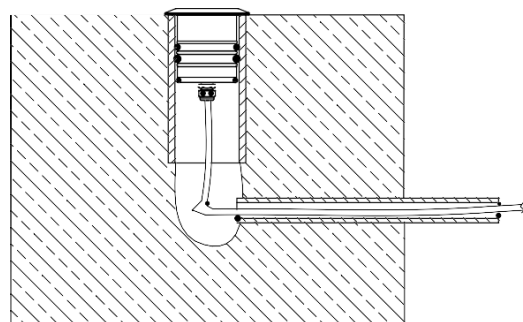

Figure 5
4. Install the lighting fixture into a PVC pipe and confirm that the flange of the fixture is flush with the installation surface (Figure 5);